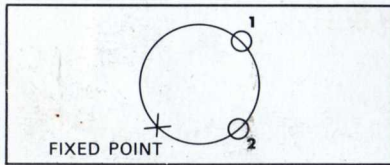

Fig. 42 - Dipped/Main beam headlamps (large  $\varnothing$ )
- Dipped/Main beam headlamps (large diameter) self-levelling (Fig. 42) :